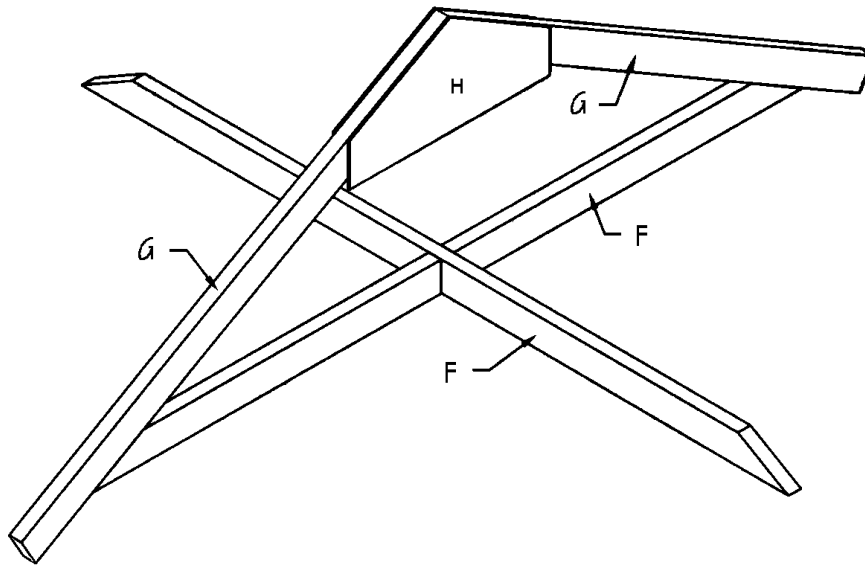

Figure 10
10. Apply glue to the inner edges of the notches, then fit the slots in the two Roof Supports (F) together so that the Roof Supports (F) form an X shape as shown in *Figure 10*. Screw through the top Roof Support (F) into the notch, using a 2-inch wood screw.
11. Cut two Rafter Braces (I) from 2 x 4 pine, each measuring 58 inches.